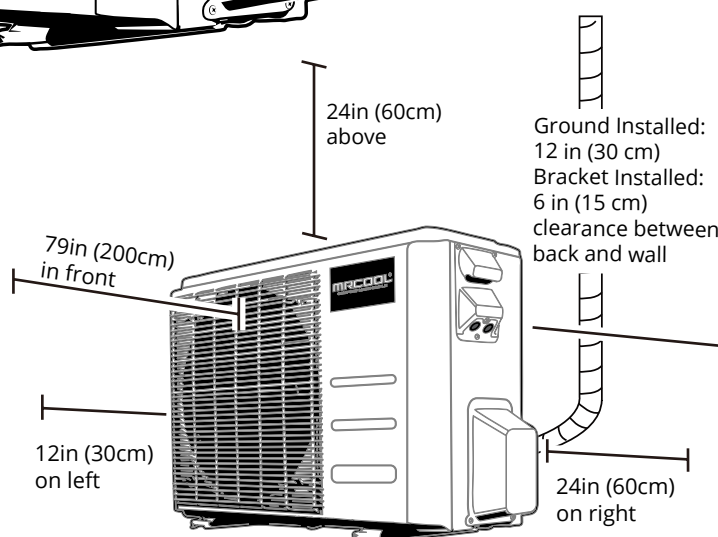

Fig. 5.1
- ☒ Meets all spatial requirements shown in Installation Space Requirements (Fig. 5.1)